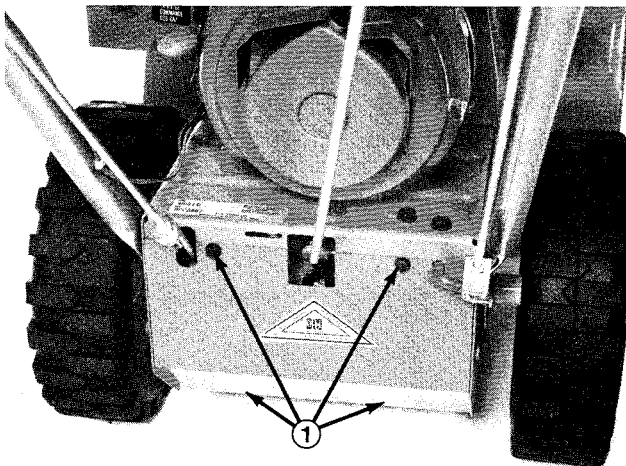

Figure 35
1. Remove four capscrews securing bottom cover to frame. Remove bottom cover (Fig. 35).